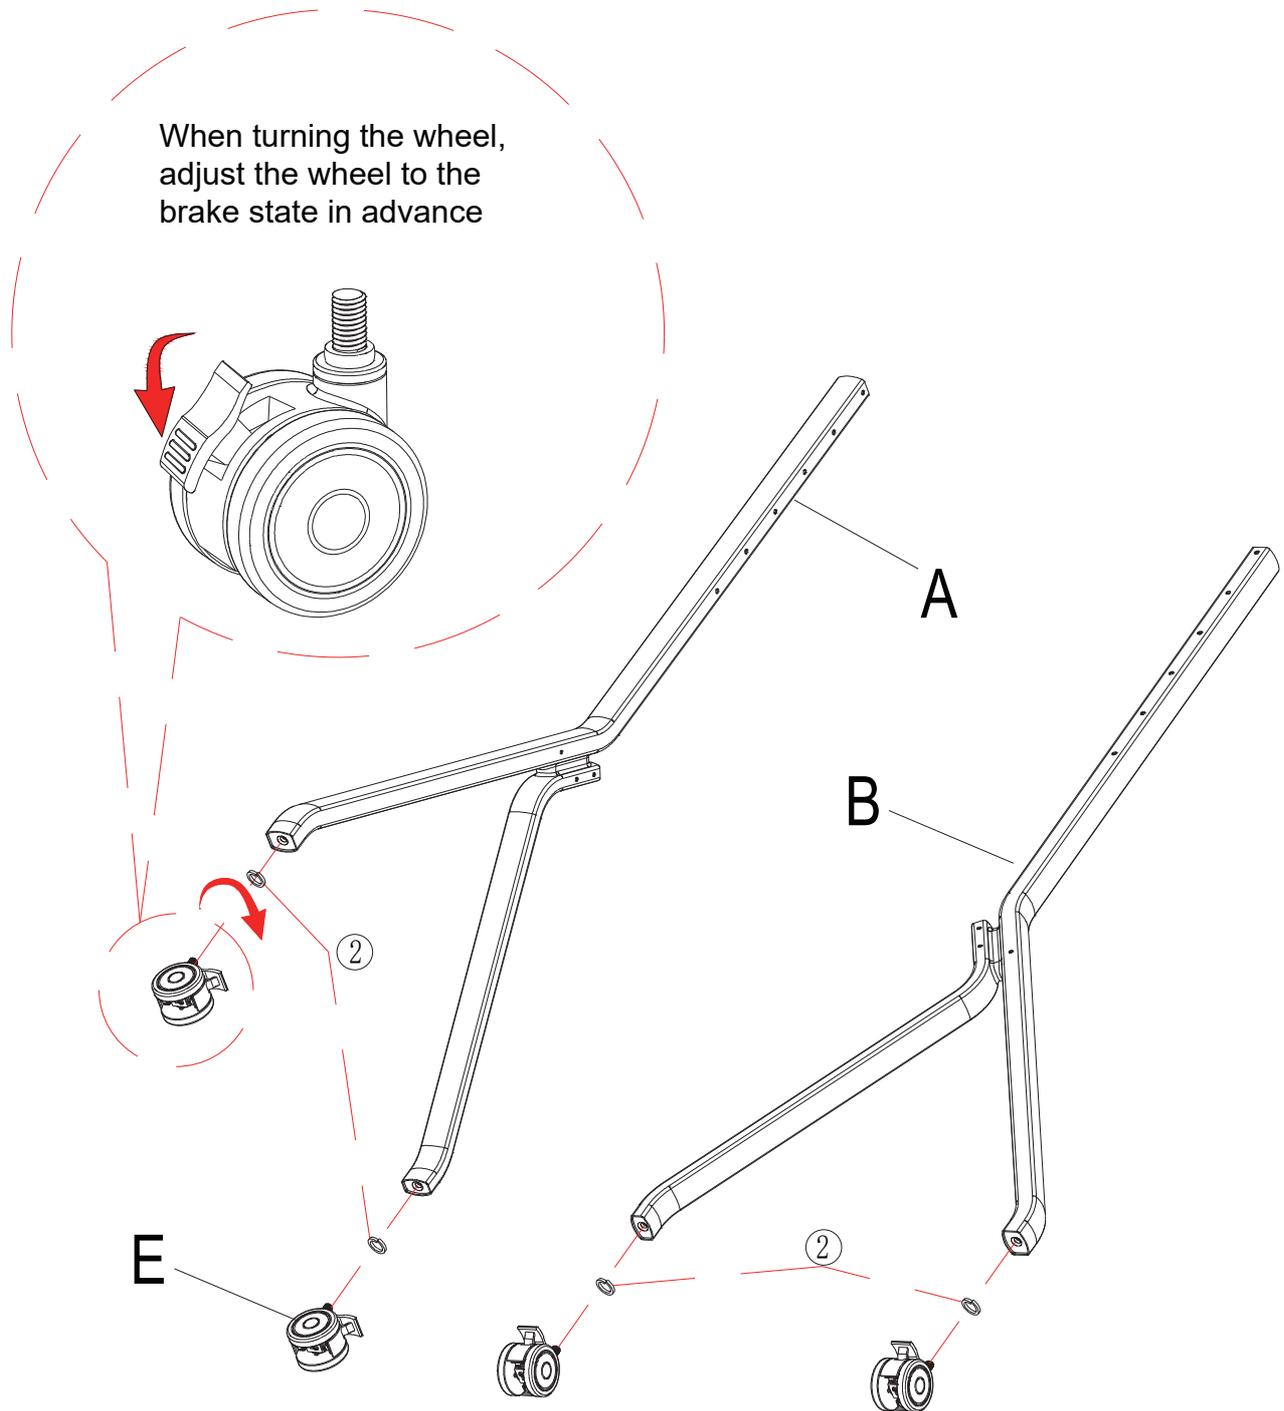

Figure 1
Step 1 : Adjust the wheel to the brake state and screw it into the leg (Figure 1).